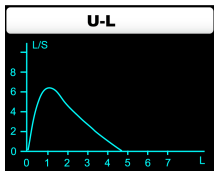
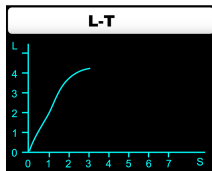
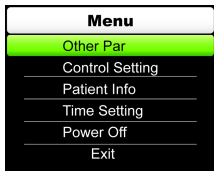
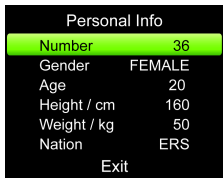

Figure 6-4 Flow rate-volume chart
Figure 6-5 Volume-time chart
Figure 6-6.
Figure 6-20
**Flow rate-volume chart, volume-time chart:** Press “Up”, “Down” key will appear two charts: Flow rate-volume chart, volume-time chart (as Figure 6-4 and Figure 6-5). The above three interfaces are main interface, in its interface, press “Menu” to main menu as Figure 6-6.
When testing, press “Menu” to its main-menu as Figure 6-6, then user can browse other parameters, and control setting, patient information, real time setting, power off etc. can be operated, the detail methods are as following:
**Attention:** Open the review function can browse all measured data, the path is: Enter the main menu as Figure 6-6, select “Patient Info”, press the confirm key to enter its sub-menu as Figure 6-20. Select “Number”, then press the confirm key to case number interface as Figure 6-11 (The function only can be selected in case of opening the review function), then use “Up” or “Down” key to select case number, press the confirm key to browse the corresponding information. If you want to browse other cases, then repeat the above steps (If the case data is error, then it will display “Error!” after pressing the confirm key).
Press “Patient Info” to its sub-menu as Figure 6-20